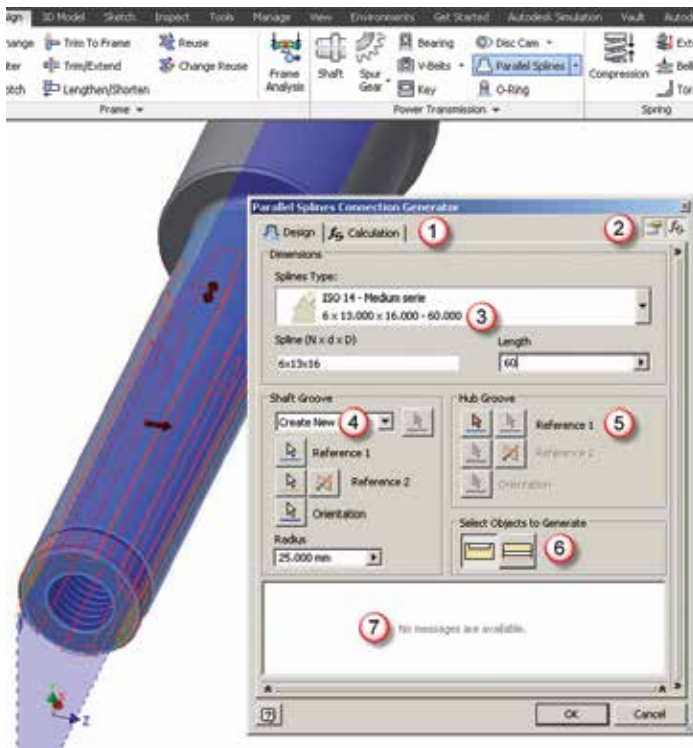

Figure 10: Parallel Spline Connection Generator.
Starting the tool opens the Parallel Spline Connection Generator, a dialog box with the following features (see Figure 10):
Tip: New users are often frustrated that the generator will not continue after the respective settings are added. Make sure you check the Shaft/Hub feature creation option (see item 6 on Figure 10). This is set to both shaft and hub by default. If you are only creating a shaft spline, Inventor will still be waiting for the hub. Check the hub option off and Inventor will create the feature.